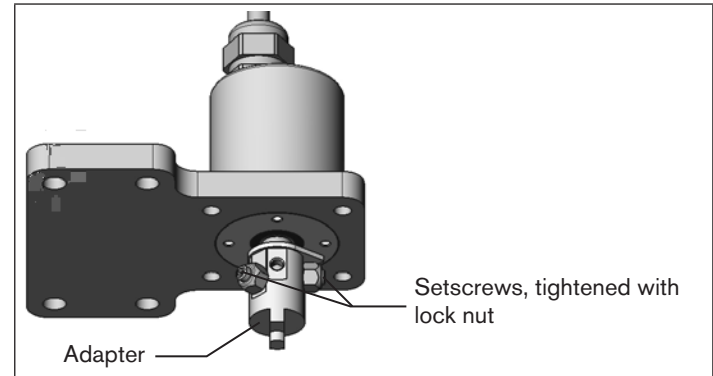

Fig. 22: Fitting the adaptor
- Fit adaptor to the shaft of the rotating Remote Sensor and attach with 2 setscrews (see "Fig. 22").